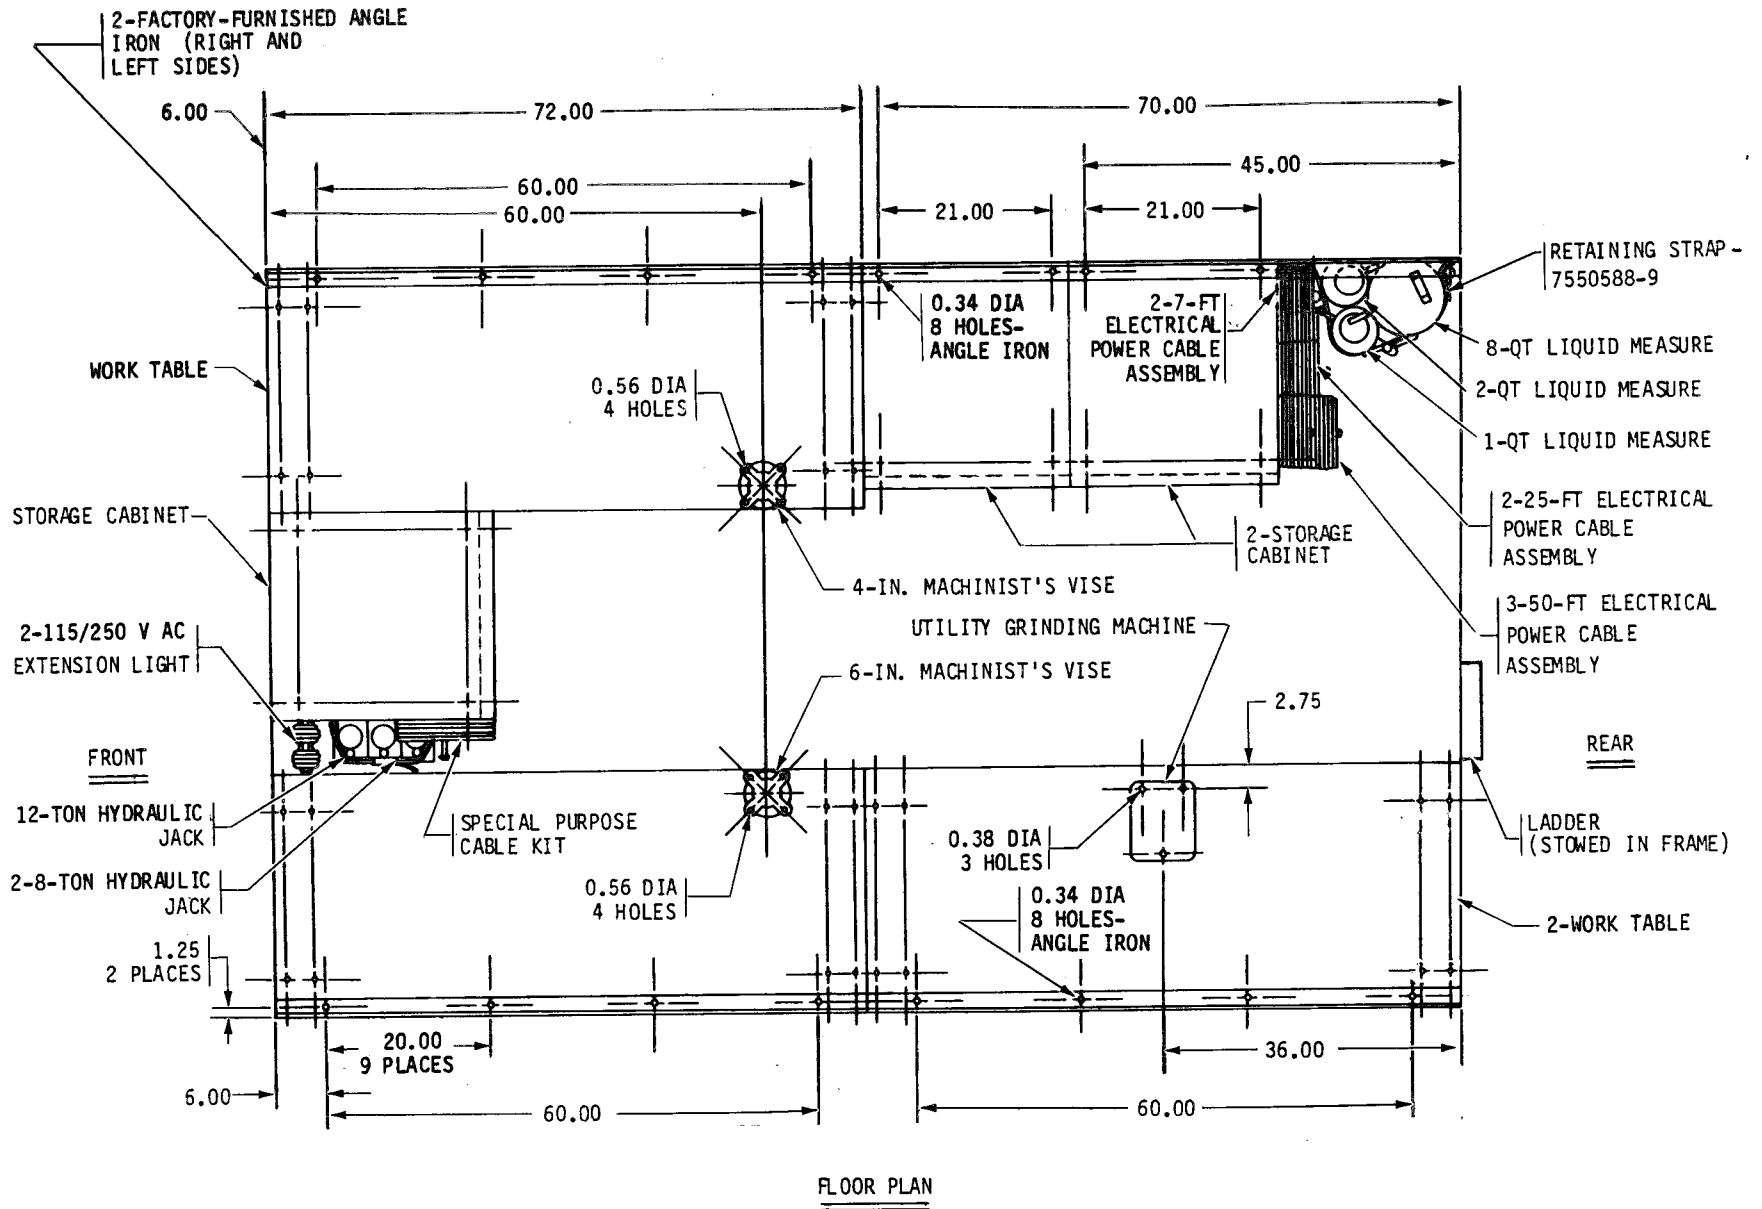
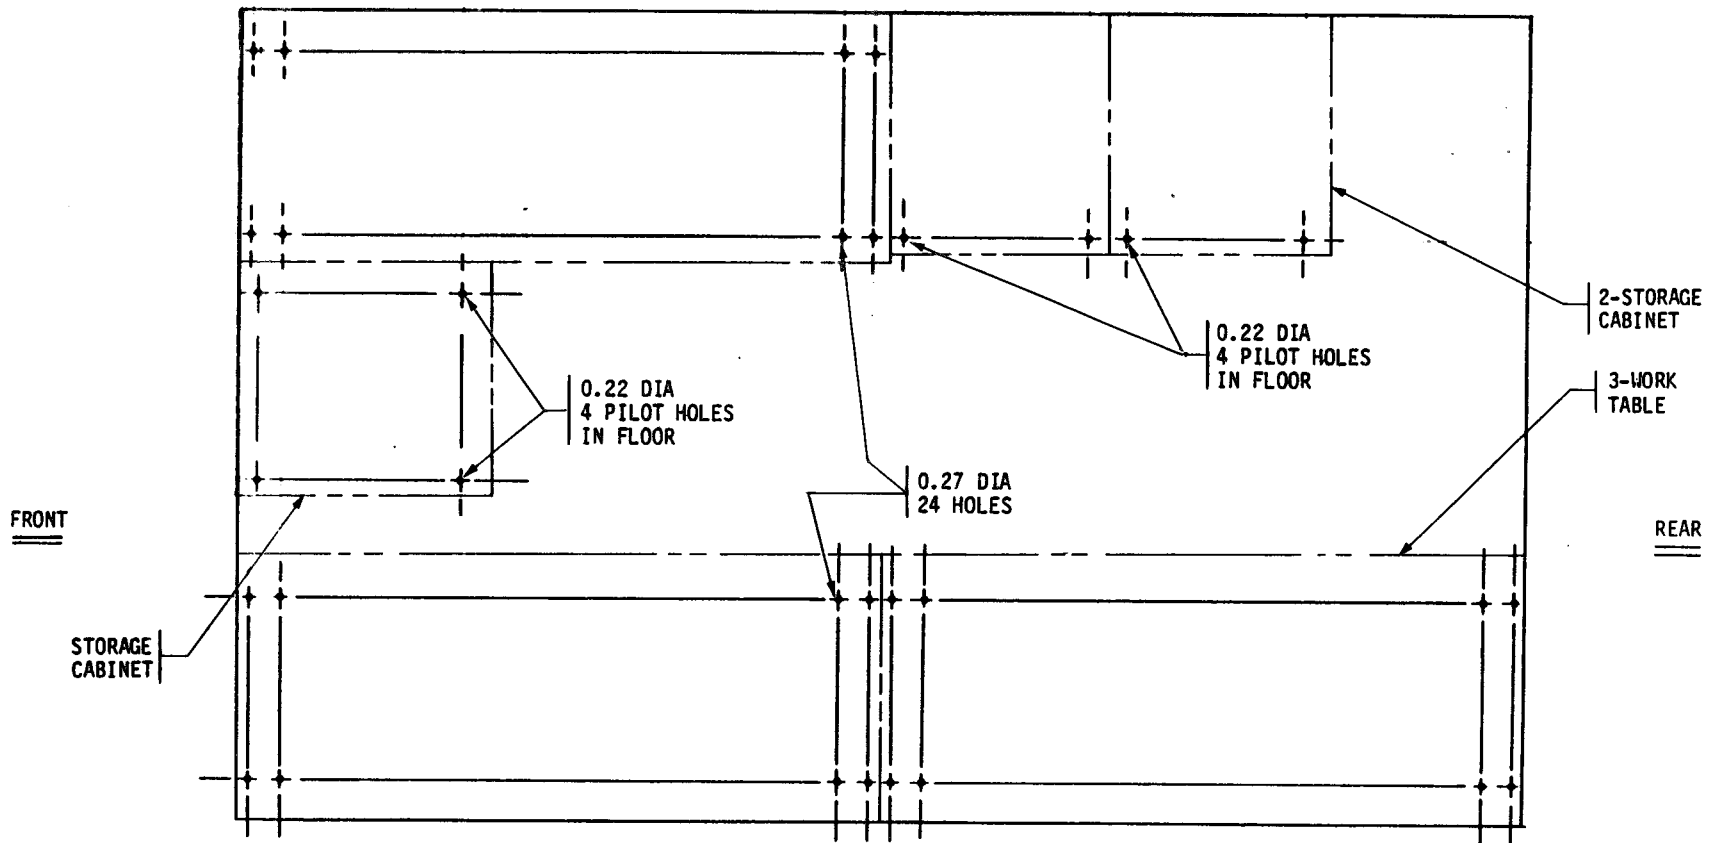

Figure 2. Components to be mounted, floor plan, unit 1, M109A3.
Figure 3. Hole dimensions for mounting components, floor plan, unit 1, M109A3.
Position floor, table, and cabinet mounted equipment as shown in figures 2 thru 23. Use the equipment mounting holes as templates for location of blind rivet nuts and fasteners. Positions may be varied to drill into structural members in fixed floor.
**c.** Follow steps (1) thru (14) below for equipment installation in unit 1, M109A3 shop van truck.
(1) Mark and drill sixteen 0.34-in. diameter holes through horizontal legs of two factory-furnished angle irons in accordance with figure 2. Position three work tables (4910-00-357-5342) in accordance with figures 2, 6, and 7 under factory-furnished angle irons. Using the work tables as templates, mark and drill twenty-four 0.27-in. diameter holes through table legs and 1.00 inch deep into van floor in accordance with figure 3. Reposition work tables and secure to van floor using twenty-four 3/8- x 1-1/4-in. hex head lag bolts (MS16992-540) and twenty-four 3/8-in. lockwashers (MS35338-46). Using the drilled angle irons as templates, mark and drill sixteen 0.34-in. diameter holes through tabletops in accordance with figure 2. Secure work tables to angle iron using sixteen 5/16- x 1-1/8-in. hex head capscrews (MS90725-35), sixteen 5/16-in. **flat washers** (MS27183-11), sixteen 5/16-in. lockwashers (MS35338-45), and sixteen 5/16-in. hex nuts (MS51967-5).
(2) Position three storage cabinets (7125-00-330-0130) in van in accordance with figures 2, 6, and 7. Mark and drill eight 0.34-in. diameter holes in bottom plates of storage cabinets (four holes in one storage cabinet and two holes per remaining storage cabinet). Locate at corners, allowing for minimum required clearance for 5/16- x 1-1/4-in. hex head lag bolts. Using storage cabinets as templates, mark and drill eight 0.22-in. diameter pilot holes into van floor 1.00 inch deep. Secure storage cabinets to van floor, using eight 5/16- x 1-1/4-in. hex head lag bolts (MS16992-521) and eight 5/16-in. lockwashers (MS35338-45).
(5) Position electrical power cable assemblies (two 4910-00-800-1405, two 4910-00-725-9558, and three 6150-00-682-3460) and special purpose cable kit (2590-00-148-7961) on cabinet squareneck bolts in accordance with figures 2 and 6.
(7) Position two 8-ton hydraulic jacks (5120-00-595-8396) and 12-ton hydraulic jack (5120-00-224-7330) in accordance with figures 2 and 6. Secure hydraulic jacks to storage cabinet with a 48.00-in. retaining strap (7550588-3).
(8) Position 1-qt liquid measure (7240-00-233-6013), 2-qt liquid measure (7240-00-225-8113), and 8-qt liquid measure (7240-00-255-5996) in van as shown in figure 2. Secure liquid measures to van wall with a 66.00-in. retaining strap (7550588-9) in accordance with figures 2 and 6.
(9) Position 4-in. machinist's vise (5120-00-293-1439) on work table right side in van as shown in figures 2 and 6. Using base of 4-in. machinist's vise as a template, mark and drill four 0.56-in. diameter holes in tabletop. Secure 4-in. machinist's vise to work table with four 1/2- x 2-in. hex head capscrews (MS90725-115), four 1/2-in. flat washers (MS27183-17), four 1/2-in. lockwashers (MS35338-48), and four 1/2-in. hex nuts (MS51967-14).
(10) Position 6-in. machinist's vise (5120-00-223-1945) on work table left side in van as shown in figures 2 and 7. Using the base of the machinist's vise as a template, mark and drill four 0.56-in. diameter holes through tabletop. Secure machinist's vise to tabletop with four 1/2- x 2-in. hex head capscrews (MS90725-115), four 1/2-in. flat washers (MS27183-17), four 1/2-in. lockwashers (MS35338-48), and four 1/2-in. hex nuts (MS51967-14).
(11) Position two 115/250 v ac extension lights (6230-00-268-9436) on squareneck bolt of storage cabinet in accordance with figures 2 and 6.
(13) Position utility grinding machine (3415-00-255-2683) on work table in accordance with figures 2 and 7. Using base of utility grinding machine as a template, mark and drill three 0.38-in. diameter holes through tabletop. Secure utility grinding machine to tabletop using three 5/16- x 1-1/2-in. hex head capscrews (MS90725-38), three 5/16-in. flat washers (MS27183-11), three 5/16-in. lockwashers (MS35338-45), and three 5/16-in. hex nuts (MS51967-5).
(14) Ladder (2540-00-641-0187) is stowed in frame of van in accordance with figure 2.
d. Follow steps (1) thru (18) below for equipment installation in unit 2, M35A2 cargo truck.